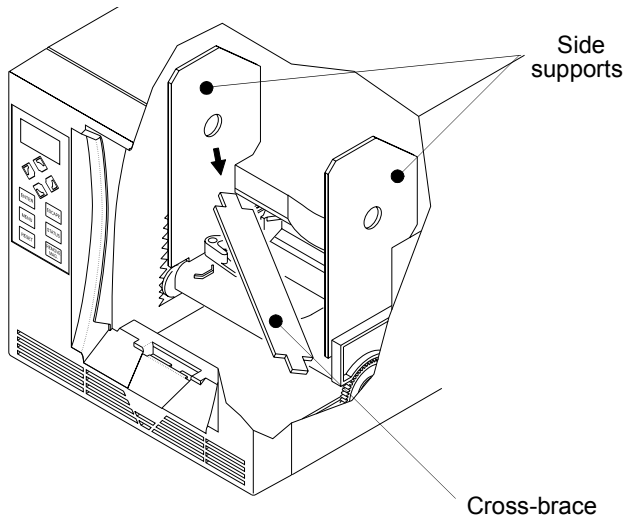

Figure 2-2 Removing the shipping braces
- a. Grasp the cross-brace and disengage it from one side support. Then remove it from the autoloader, as shown in **Figure 2-2**.